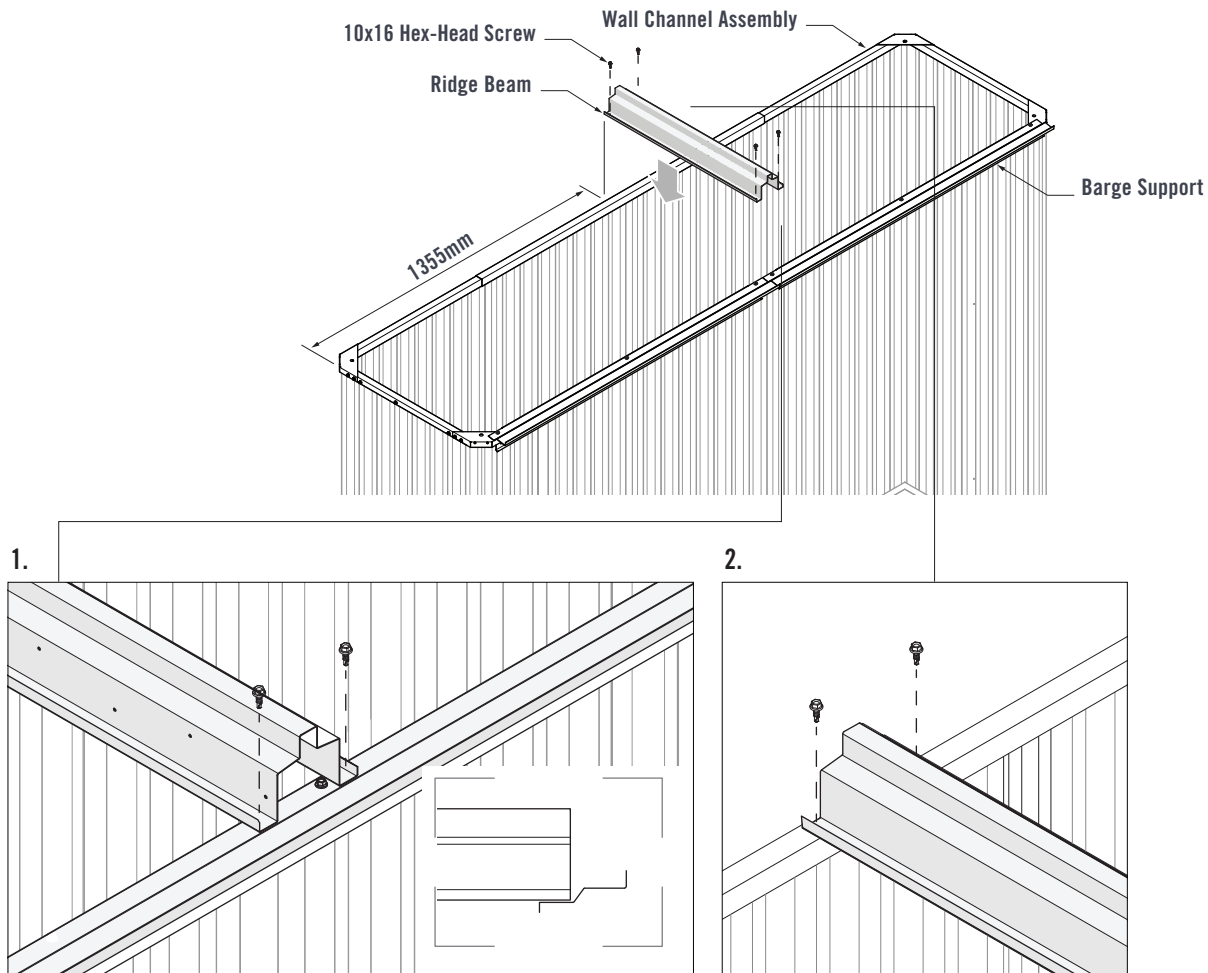

FIGURE 9.1
Fit the Ridge Beam onto the top Wall Channel Assembly and Barge Support. Ensure 1355mm spacing between the edge of the shed and edge of the Ridge Beam (Figure 9.1).
1. Align the end of the Ridge Beam with the step of the Barge Support. Fasten two 10x16 Hex-Head Screws through the pilot holes in the Ridge Beam and into the Barge Support (Figure 9.1).
2. Fasten two 10x16 Hex-Head Screws through the pilot holes in the Ridge Beam and into the rear Wall Channel Assembly (Figure 9.1).